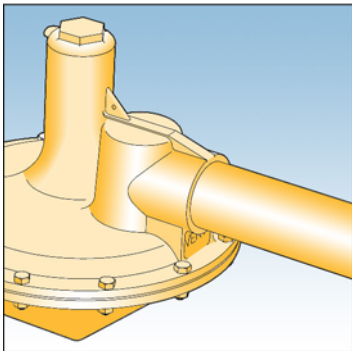

Fig. 3
2. Connect the vent line (2"), using a jointing compound approved to national standards, and lead to atmosphere in accordance with national standards. Ensure that no water can penetrate vent pipeline. See Fig. 3.